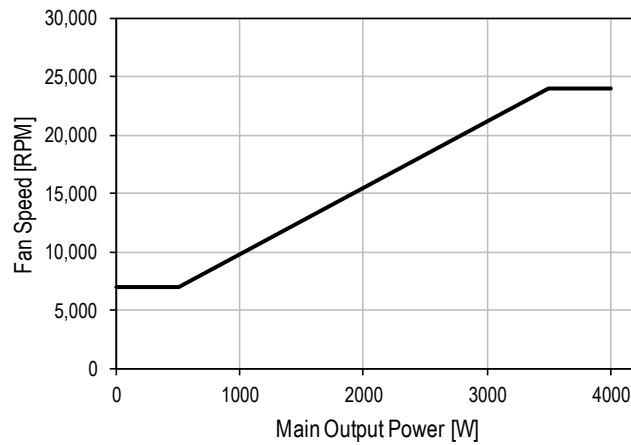

Figure 7. Fan speed versus main output power
- Load depending Fan Speed curve, see *Figure 7*. This curve is in use at nominal conditions.